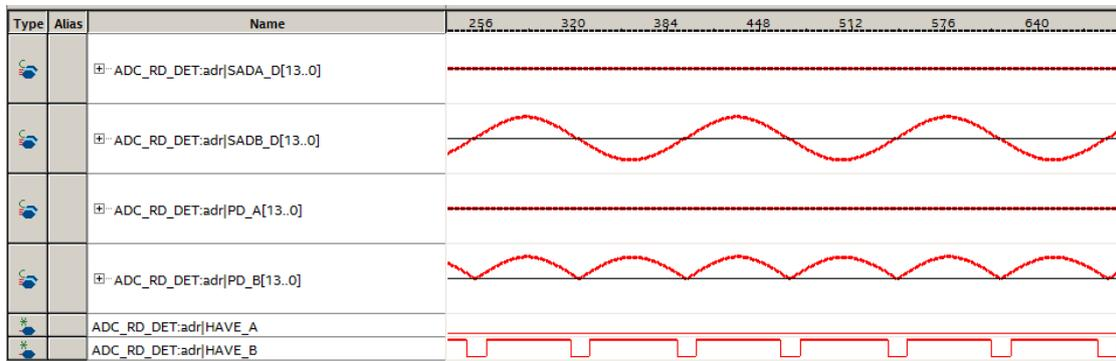

Figure 4-7 SignalTape II viewer for the HIGH-SPEED-ADC
- Open ViewWave.stp and click RUN to observe the waveform change of incoming signal in real time, as shown in **Figure 4-7**. The LED0 and LED1 correspond to ADC-A and ADC-B, respectively. They will lit when the incoming signal exceeds the threshold.